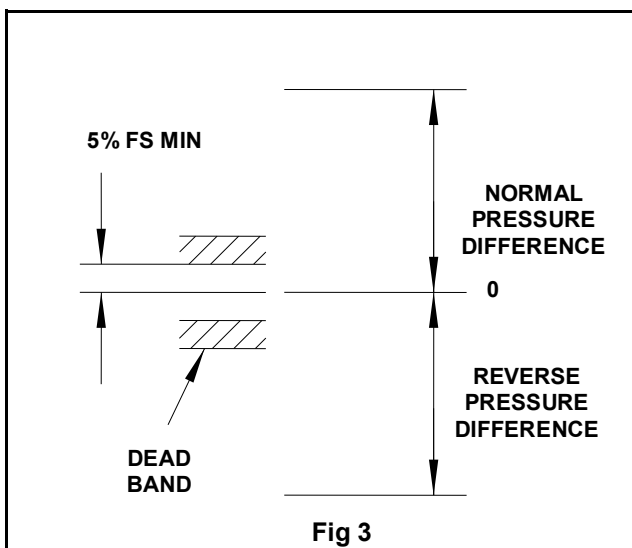

Fig 3
It is recommended the minimum setting to be not less than 5% of Full Scale (FS) either side approaching zero (see Fig 3).